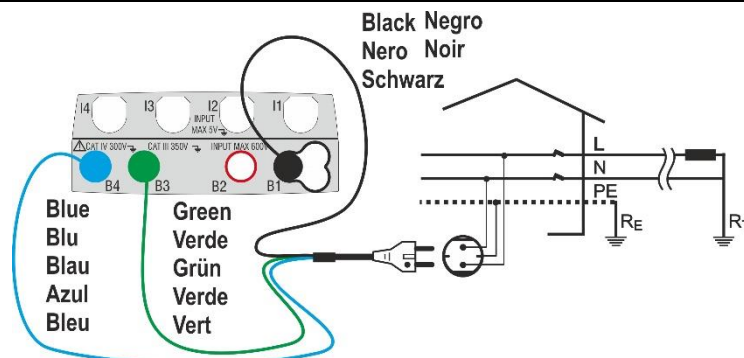
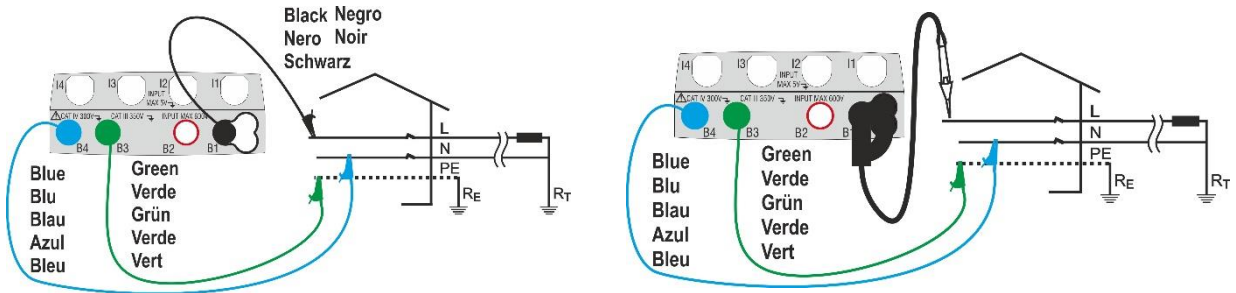
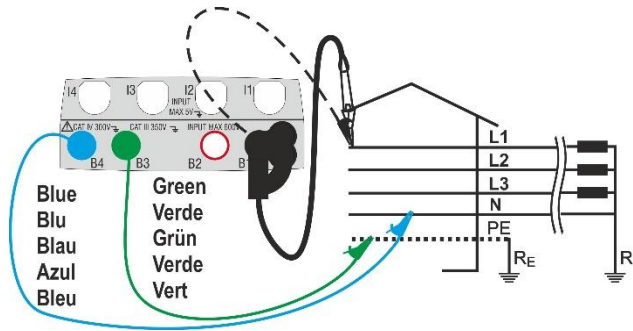
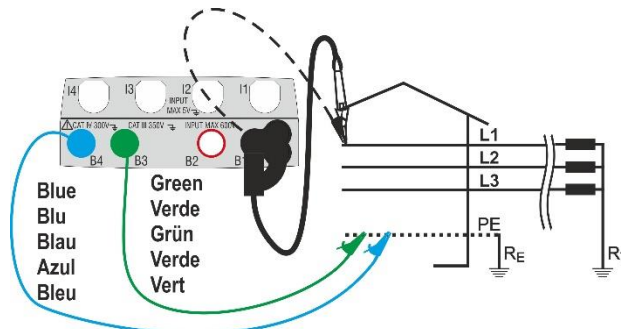

Fig. 17: L-N/L-PE measure for single-phase systems with shuko plug
Fig. 18: L-N/L-PE measure for single-phase/two-phase with cables and remote lead
Fig. 19: L-N/L-PE test for three-phase systems by means of single cables and remote lead
Fig. 21: L-PE/L-N test for three-phase systems (no N) by means of single cables and remote lead
4. Connect the shuko plug, the alligator clips or the remote lead to the electrical mains according to Fig. 17, Fig. 18, Fig. 19 and Fig. 21.
4. If possible, disconnect all loads connected downstream of the measured point, as the impedance of these users could distort the test results. Connect the shuko plug, the alligator clips or the remote lead to the electrical mains according to Fig. 17, Fig. 18, Fig. 19 and Fig. 21 in the nearest possible point to the protection device. Note the presence of the correct voltage values between L-L and L-PE corresponding to the selections carried out in the initial phase (see § 5.1.4) as shown in the screen to the side.